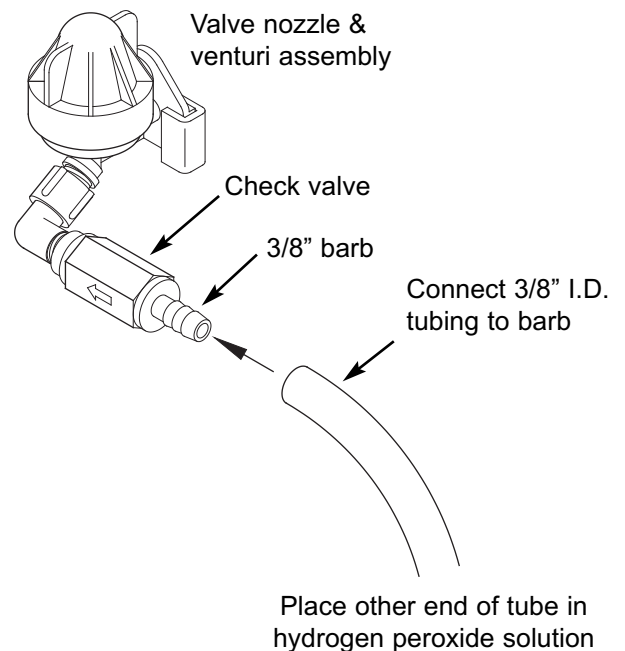

FIG. 14
3. Connect a length of 3/8 I.D. tubing to the barb on the aspirator check valve (See Figure 14).